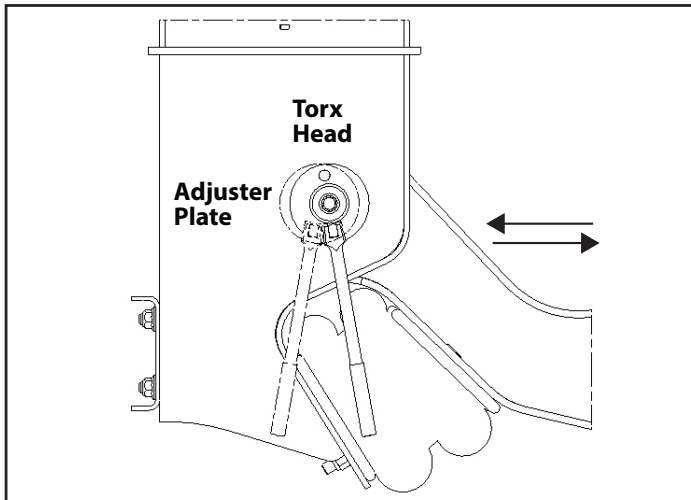

Figure 10.
2. Locate the adjuster plate at the pivot connection. Insert a 1/2" -shank breaker bar into the square hole of the adjuster plate. Move the arm beam forward or backward until the axle reaches alignment (Figure 10).